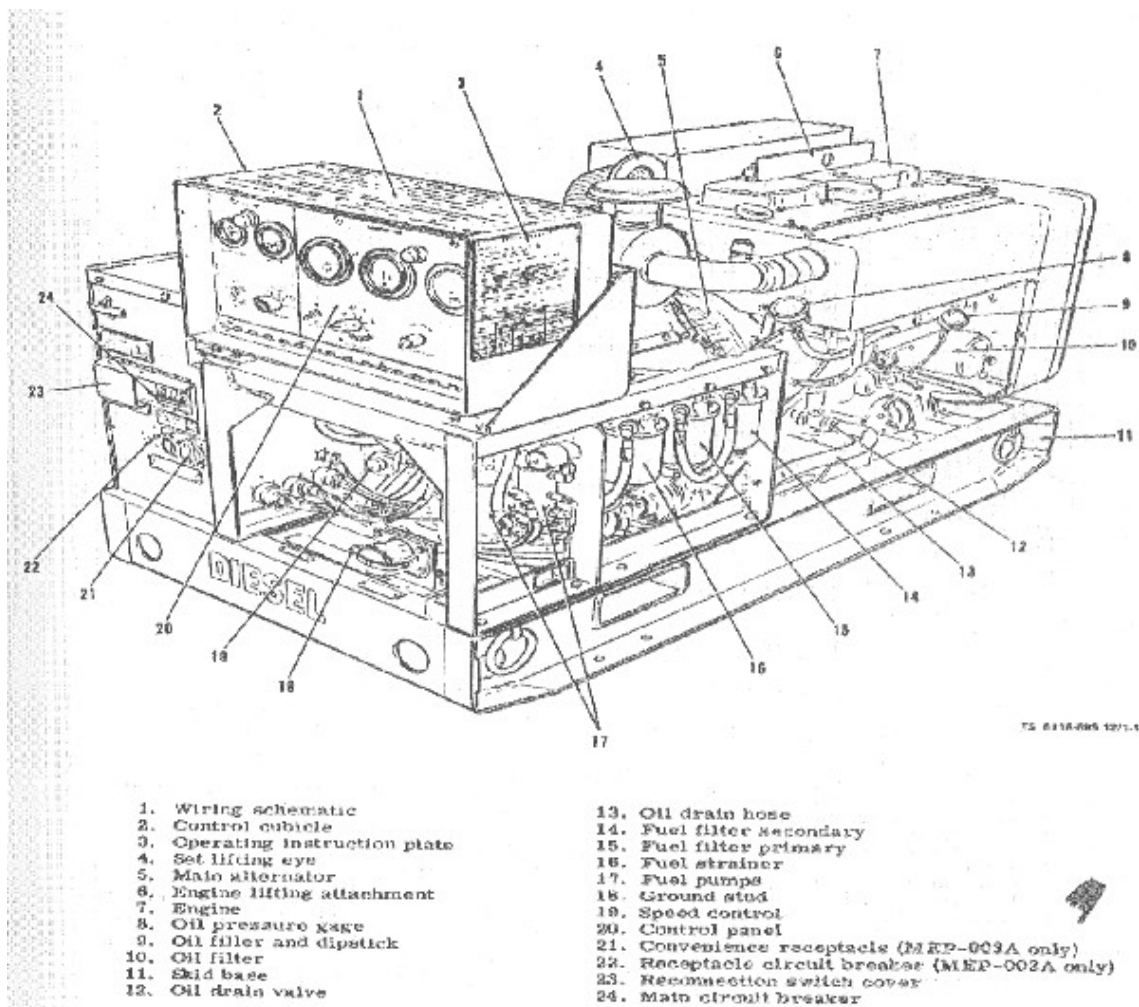

Figure 3-17
4. Install the laundry trailer's 10-kilowatt generator exhaust duct and grounding system. (See Figure 3-17)